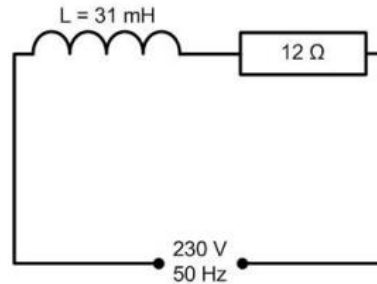

Figure 1
3. Determine, for the circuit shown in Figure 1, the